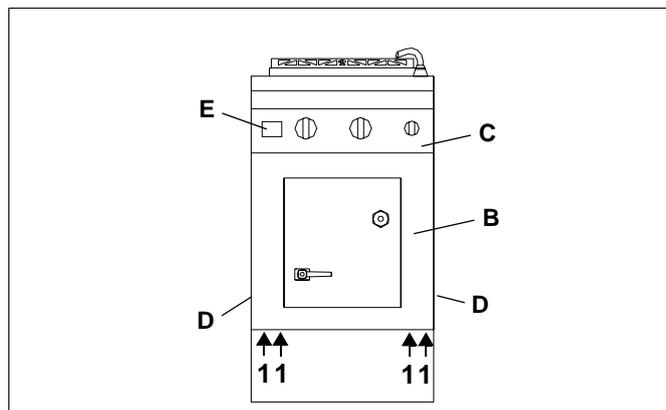

Fig.5 General view
The specification plate (E) is located in each case inside and outside on the right of the operator panel (C) (Fig. 5).